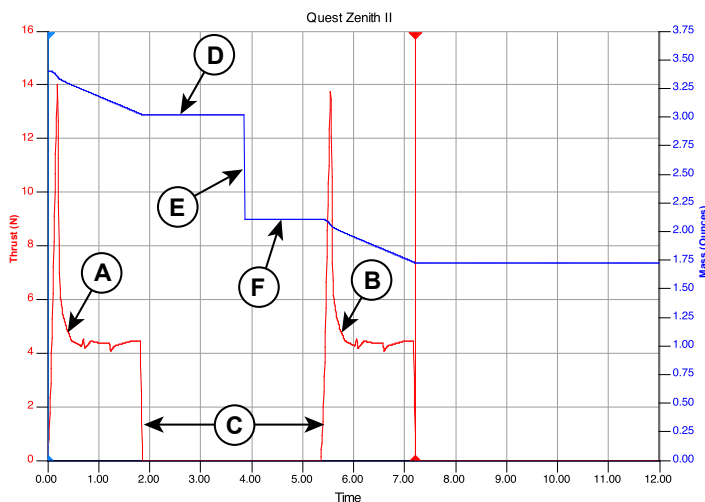

Figure 2: Thrust and Mass curves for a two-stage rocket with delayed staging
Then after you run your simulation, you can use the plot feature to see if your simulation matches what your anticipated timeline would look like. For example, I like to plot out the thrust and the mass curves for two-stage rockets to make the comparison (See Figure 2).
In Figure 2, we see the thrust curves of both the booster (A) and the sustainer (B). They are identical curves, which tells us they are identical motors. I’ll tell you that they are both Estes C6 motors. The time between the curves (C) where there is no thrust indicates that there is a coasting period of over three seconds.
But the timeline graph (Figure 2) is extremely useful. If you were to look on the simulation summary screen, the motors would be listed as: [C6-2] [C6-X-1.5]. The X would be the delay of the upper stage motor (which we don't know), and the -1.5 at the end is the ignition delay of the sustainer motor.